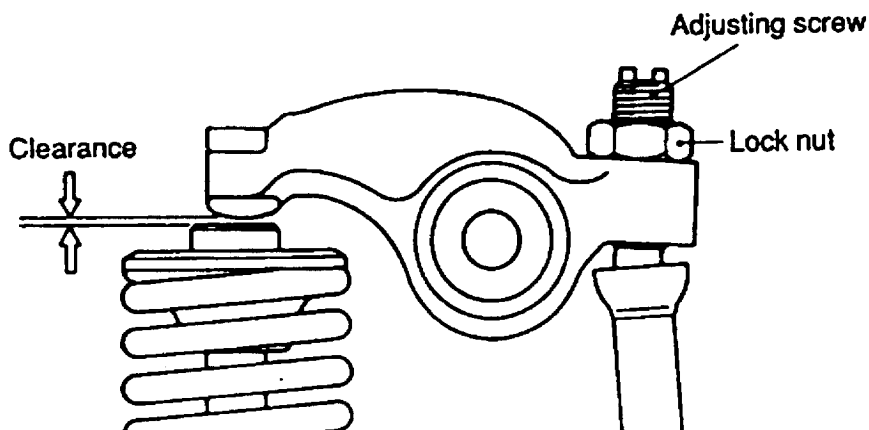

Figure 6-43 Valve clearance
- 1) The valve clearance should be adjusted while the engine is in the cold state (see Figure 6-43).